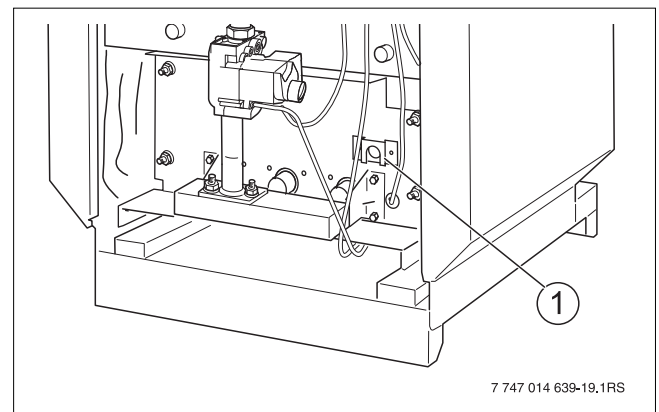

Fig. 10 G234X boiler
- Observe pilot flame through the inspection hole in the burner cover (→ Fig. 10,[1], page 9).